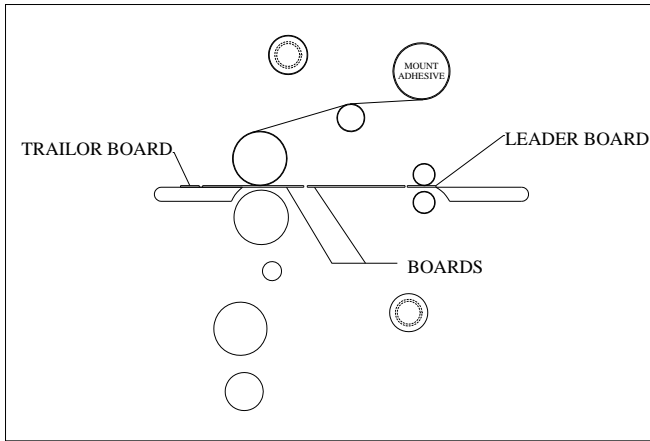

FIGURE 30
1. Load the laminator as illustrated in (Fig. 30). Remove chill idler.